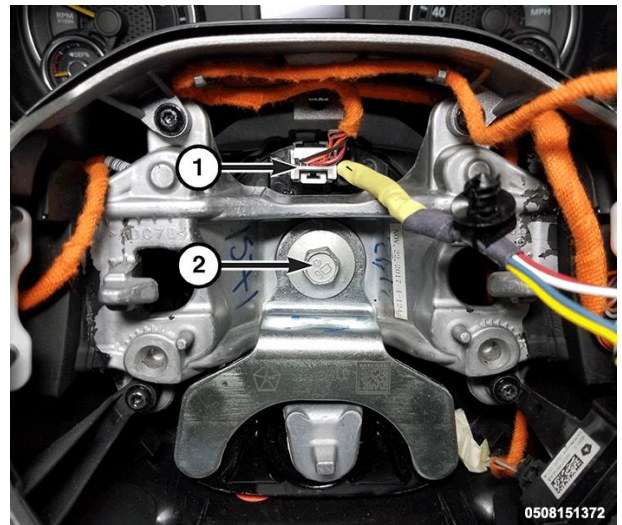

Figure 21 – Steering Wheel Wire Harness Connectors
14. Disconnect the steering wheel wire harness connectors (1) (Figure 21).
16. Remove and **DISCARD** the steering wheel bolt (2) and retain the damper if equipped (Figure 21).
12. If equipped, position the damper to the steering wheel, then install a **NEW** steering wheel bolt and tighten the nut to 61 N·m (45 ft. lbs.) (Figure 21).